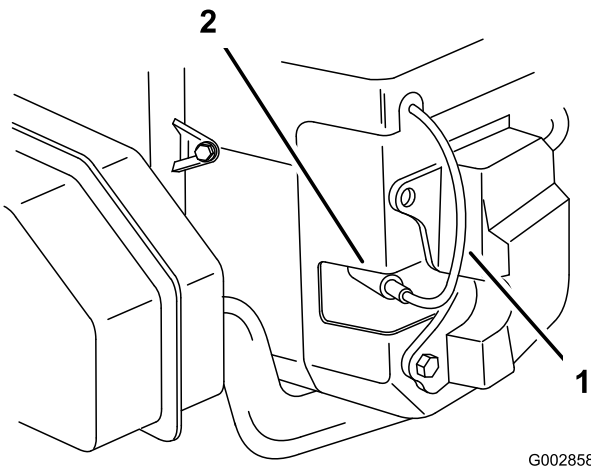

Figure 33
2. Pull the wire(s) off the spark plug(s) (Figure 33). Now clean around the spark plug(s) to prevent dirt from falling into the engine and potentially causing damage.
3. Push the wire(s) onto the spark plug(s) (Figure 33).